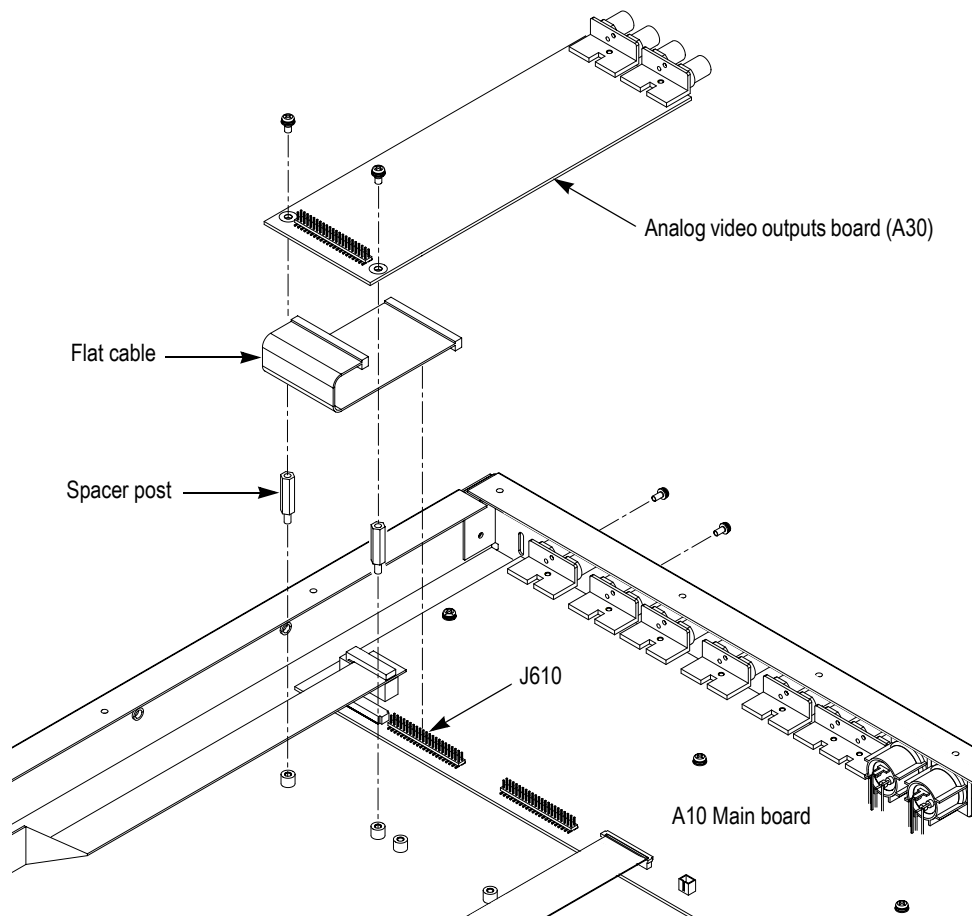

Figure 2: Installing the analog video outputs board
5. Use a 5.5 mm size nut driver to install the two spacer posts to the chassis. See Figure 2.
6. Connect the one end of the flat cable provided in the kit at J610 on the A10 Main board. See Figure 2.
7. Use a screwdriver with a #1 Phillips tip to install the two screws (M2.6 X 6) securing the analog video outputs board to the rear panel. See Figure 2.
8. Use a screwdriver with a #2 Phillips tip to install the two screws (M3 X 6) securing the analog video outputs board to the spacer posts. See Figure 2.